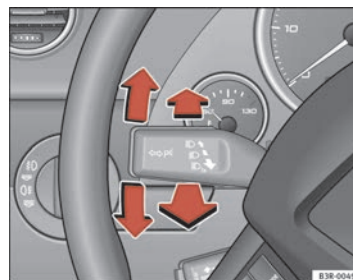

Fig. 93 Turn signal and main beam headlight lever
- Move the lever all the way up to indicate right or all the way down to indicate left ⇒ fig. 93.